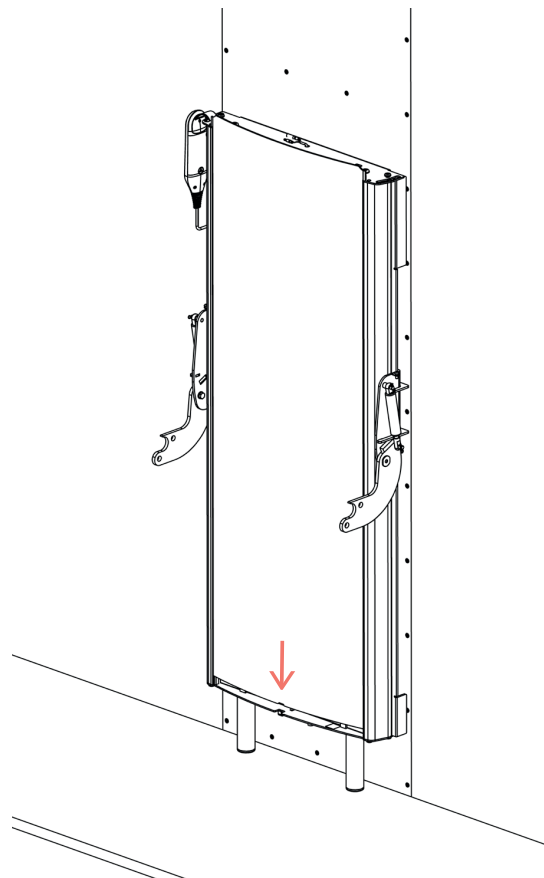

Fig 12.5b
- Starting at the bottom centre ensure that the cover is behind the hook on the bottom plate as shown in Fig 12.5b.